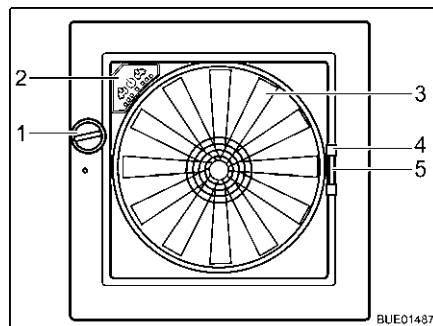

Fig. 100 Omni-Vent skylight
Opening: ■ Turn the knob (Fig. 100,1) until the desired opening angle is reached.
Closing: ■ Turn the knob (Fig. 100,1) until the skylight is fully closed.
- Using the handle (Fig. 100,4) pull the insect screen across to the other side of the frame.
- Press together the handle (Fig. 100,5) of the shade.
- Fan** If the skylight is open, the interior can be vented and aerated with the 6-speed fan (Fig. 100,3). The fan is operated via the operating panel (Fig. 100,2).